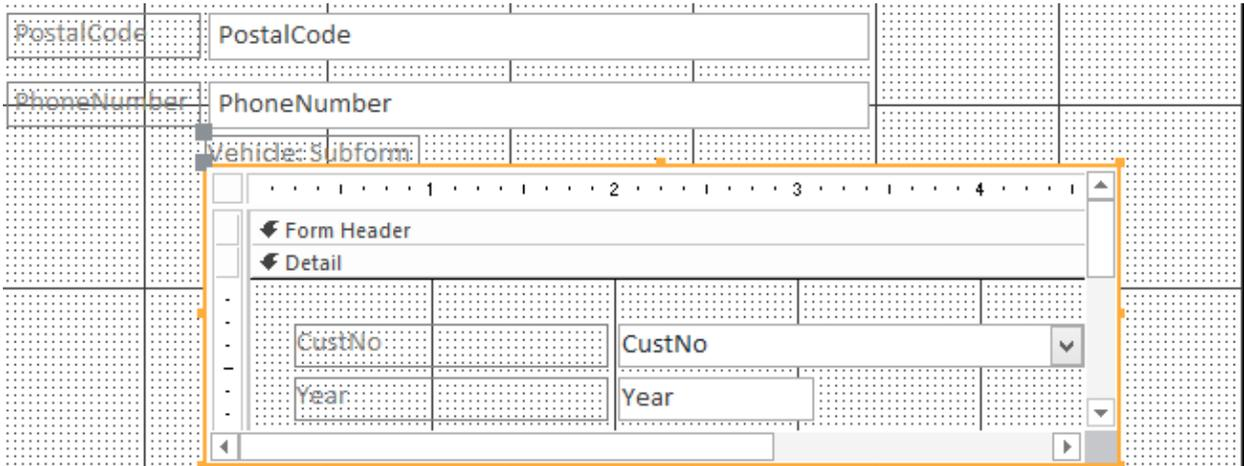

Figure 35: Design View of the *Vehicle* Subform
4. **Name the Subform:** In the area provided, type the name “Vehicle: Subform” and click **Finish**. The form will open in Design view (Figure 35).
- Modify the Subform Width: Open the Customer form in Design view. Select the subform and click on the handle on the right side of the rectangle (Figure 35). When the arrow appears, drag the subform to the left, decreasing its width approximately one grid division. Although it will be difficult to notice in design view, this action will decrease the background of the subform in form view from step 5 above. Also, change the subform label to "Vehicle Information".